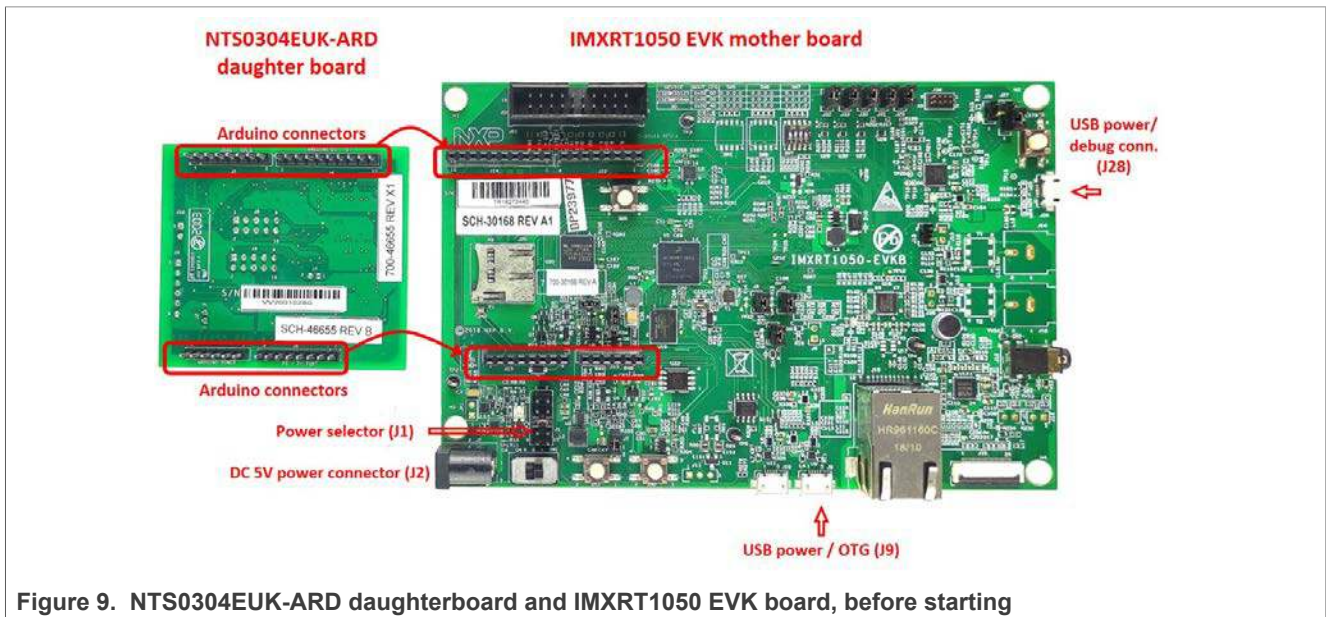

Figure 9. NTS0304EUK-ARD daughterboard and IMXRT1050 EVK board, before starting
Figure 9 shows the required hardware for operation of the NTS0304EUK-ARD daughterboard with IMXRT1050 EVK. The following items are necessary:
From J1 on the EVK board (see Figure 9) the user can select the power configuration for the motherboard. For further details, see the i.MX RT1050 Processor Reference Manual i.MX RT1050 Processor Reference Manual.
2. Insert the NTS0304EUK-ARD daughterboard on the Arduino connector of the EVK (see Figure 9).